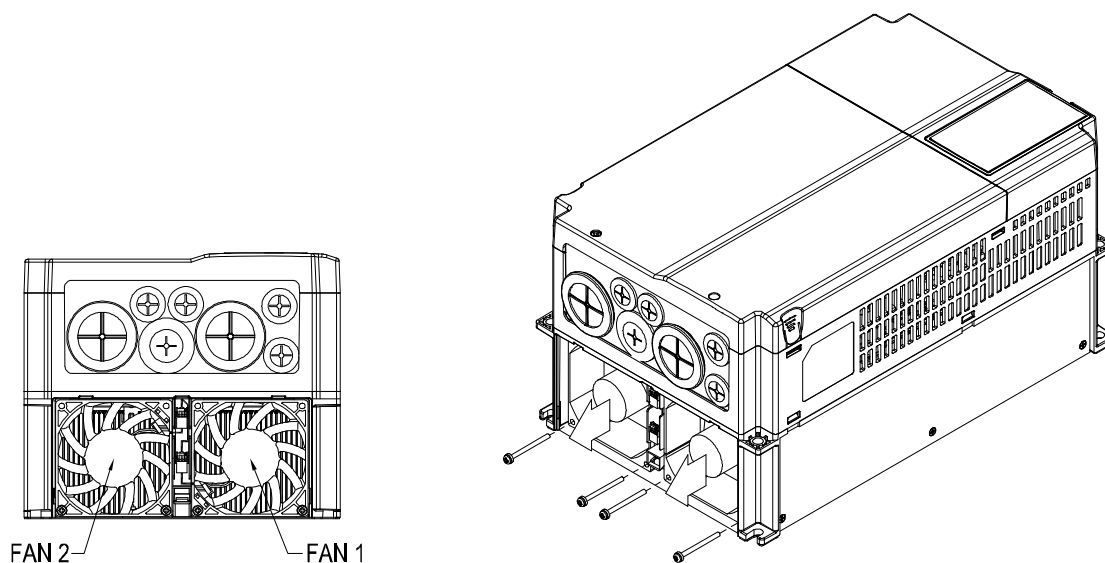

Figure 2
Step 2. (Figure 2) Disconnect the fan power · pull out the fan after loosening screws. The label of fan should face towards drive inside. Screw torque 10~12kgf-cm (8.7~10.4in-lbf)